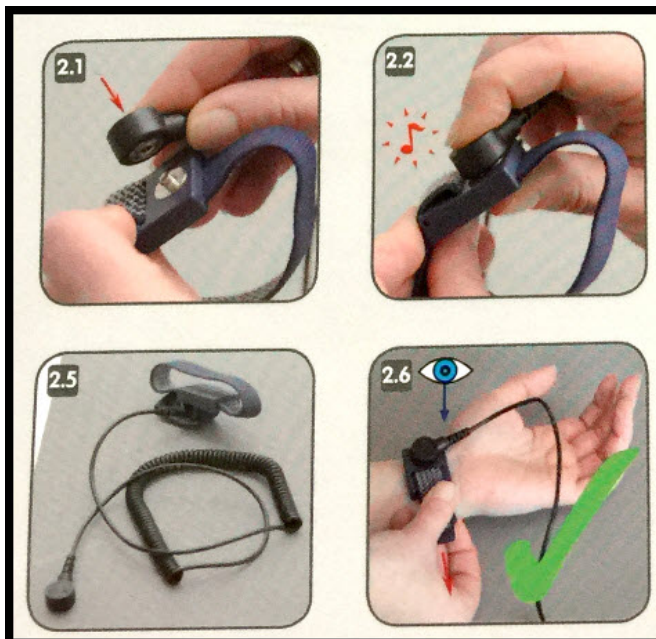

Figure 3. VAS6613 ESD work surface grounding wrist strap.
5. Ground yourself by placing the elastic strap around your wrist. Make sure it is securely touching your skin. It cannot be loose-fitting or over your shirt cuff (Figure 3).